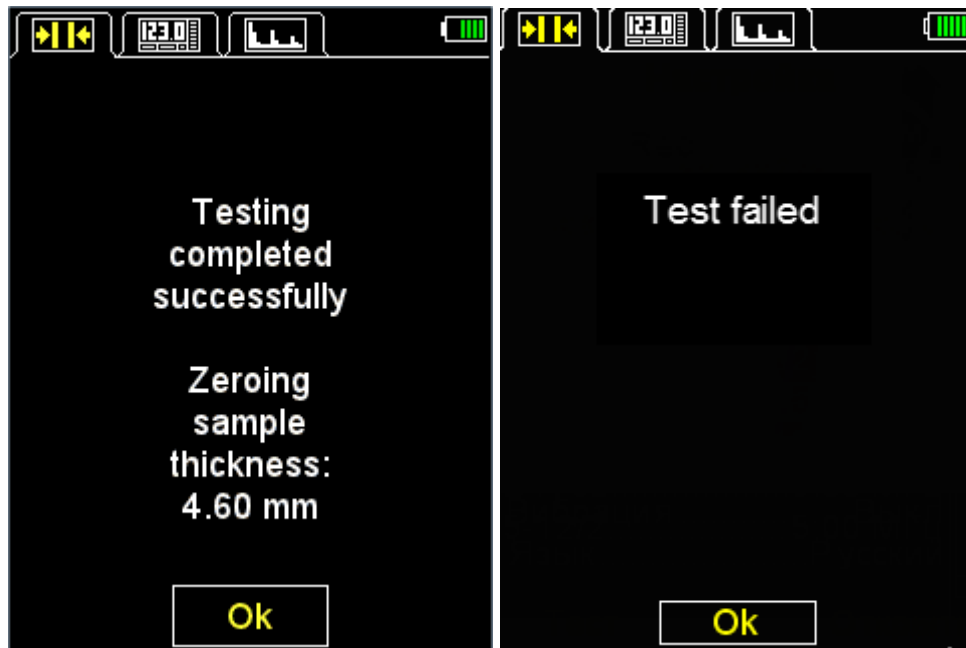

Figure 17
- The screen will display the results of the testing when the test is completed. If the test result is positive, then the thickness value of the control testing sample will be indicated. If the test result is negative, then the corresponding message will be displayed (Figure 17).